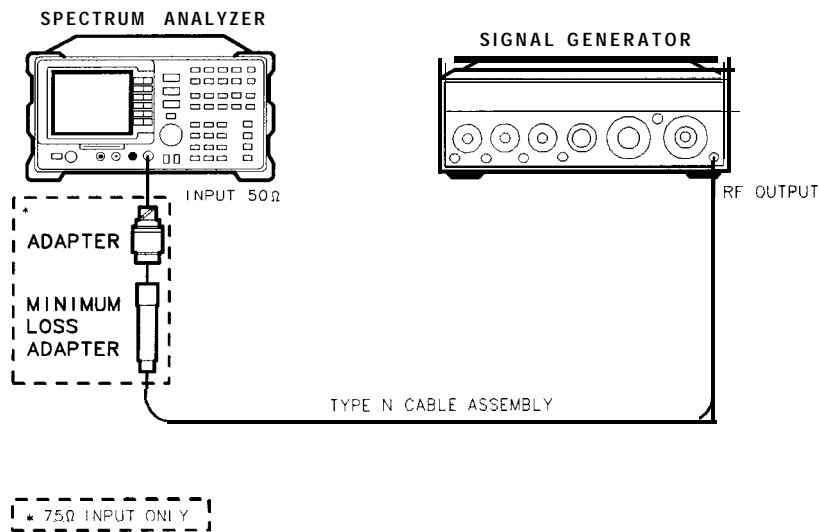

Figure 2-8. System Related Sidebands Test Setup
- Connect the equipment as shown in Figure 2-8.
**[MKR FCTN]** MK TRACK ON OFF (ON)